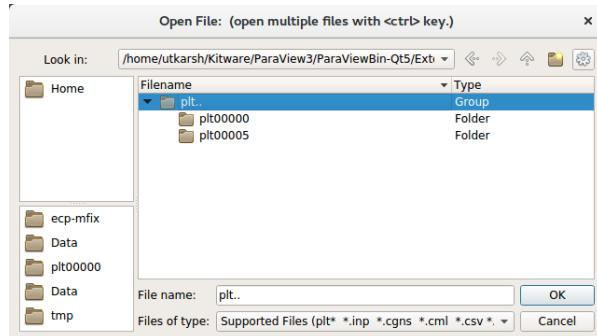

Fig. 16.2: : File dialog in ParaView showing a group of plotfile directories selected
2. Navigate to your run directory, and select the fluid or particle plotfile. Note that you can either open single/multiple plotfile(s) at once by selecting them one by one or select an ensemble of file, labelled as `plt..` and indicated as a Group in the “Type” column of the file explorer (see Fig. 16.2). In the later case, Paraview
1. Run ParaView v5.7, and select then “File” → “Open”. You will see a combined “plt..” group. Click on “+” to expand the group, if you want inspect the files in the group. You can select an individual plotfile directory or select a group of directories to read them a time series, as shown in Fig. 16.2, and click OK. ParaView will ask you about the file type – choose “AMReX/BoxLib Particles Reader”.